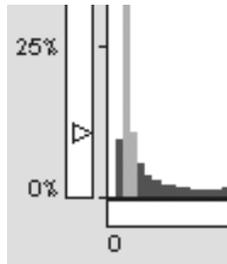

Figure 5-76. The Threshold Selection tool.
- The Threshold Selection tool, the yellow pointer on the vertical axis of the Power Spectrum, can be used to select the point below which all frequencies will be removed. Click and drag this pointer to the desired level. The retained frequencies will be highlighted on the Power Spectrum, as shown in Figure 5-76.